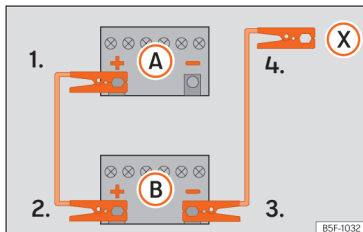

Fig. 43 Diagram of connections for vehicles without Start Stop system
2. Connect one end of the *red* jump lead to the positive (+) terminal of the vehicle with the flat battery (A) »» Fig. 43.
3. Connect the other end of the *red* jump lead to the positive terminal (+) in the vehicle providing assistance (B).
- 4a. *In vehicles without a Start-Stop system:* connect one end of the *black* jump lead to the negative terminal (-) of the vehicle providing the current (B) »» Fig. 43.